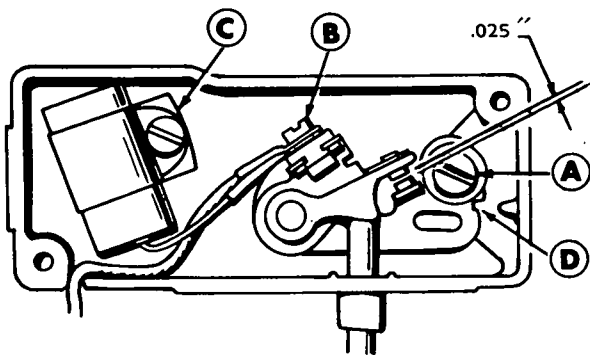

FIGURE 7. BREAKER POINT SETTING
7. Remove mounting nut (A) and pull the points out of the box just far enough so screw (B) can be removed and the leads disconnected. See Figure 7.